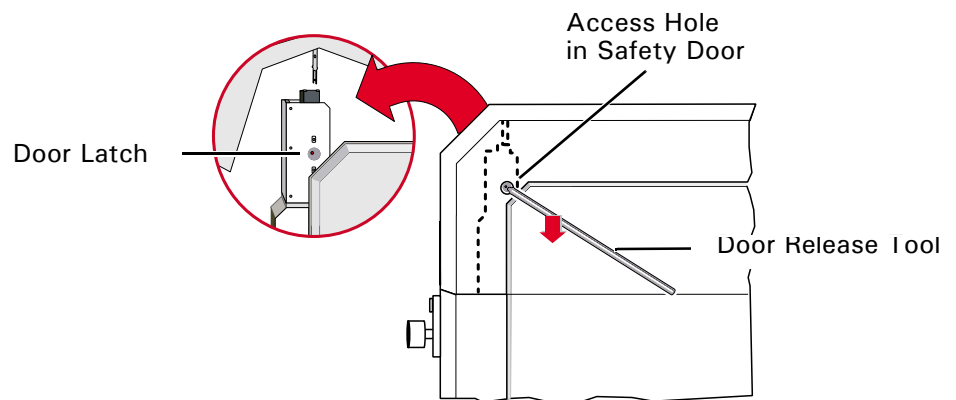

Figure 3-2
1. Remove the plastic plug from the access hole in the side of the safety door. See Figure 3-2.